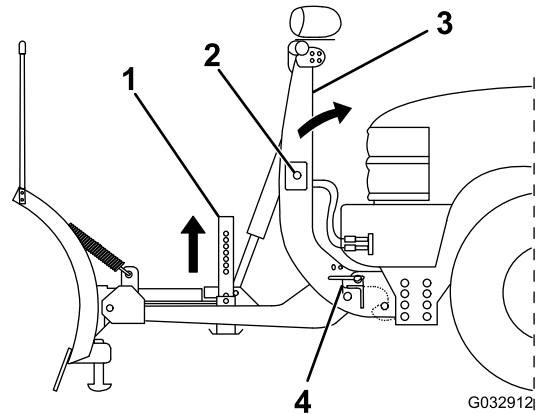

Figure 19
5. Push the SmartHitch2 switch on the side of the coupler tower upward and raise the tower until the coupler spring pins snap in (Figure 19).
7. Pull the kickstand spring pin outward and raise the kickstand, then release the spring pin to secure it (Figure 19).